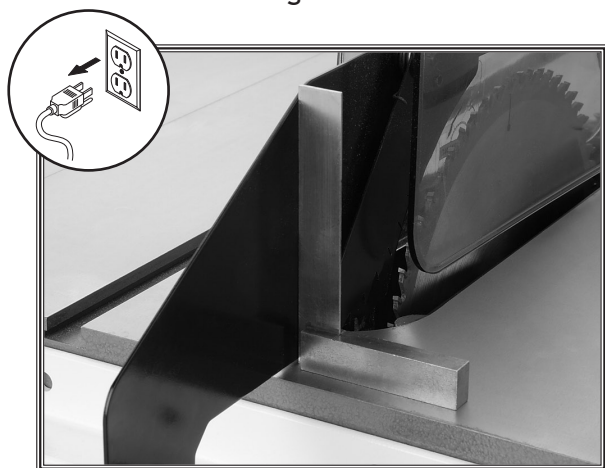

Figure 16. Blade guard perpendicular to the table.
6. Place a machinist's or a combination square against the face of the splitter as shown in **Figure 16**.
7. Loosen the hex nut that secures the mounting bracket to the shaft, and align the face of the splitter perpendicular to the table surface (**Figure 16**).